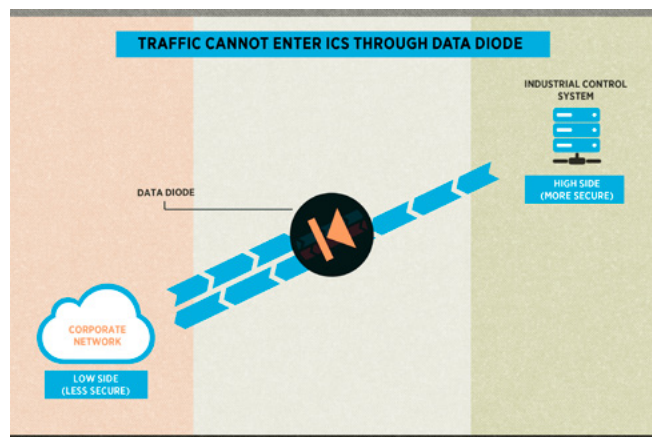

Figure 2. Read Only Control System Data Diode
- Making a network segment read only (the more common configuration for control systems), see Figure 2.